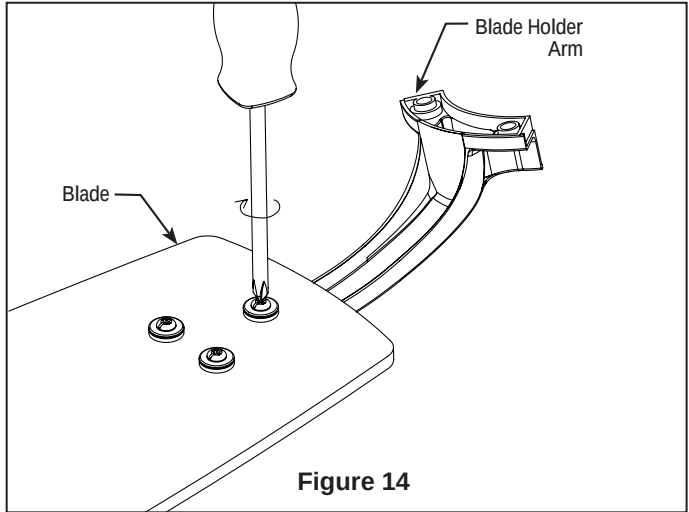

Figure 14
1. Position the blade over the blade holder with threaded posts showing. Make sure the bottom edge of the blade is fully seated against the blade arm. With a phillips screwdriver, tighten 3/16-24 x 7.5 mm phillips head screws and flat washers to secure the blade to the blade arm. (Figure 14)